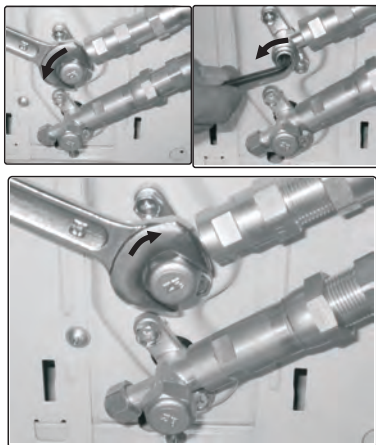

Fig.24
5. Now remove the cover on the top valve using a 19 mm open-ended spanner. Open the valve by turning it counter-clockwise as far as it will go using a 5 mm Allen key. The valve is now open. If the valve is not opened fully, the system may malfunction and suffer damage. Screw the cover back on to the top valve and tighten it well to ensure that it is properly sealed. See Fig.24.